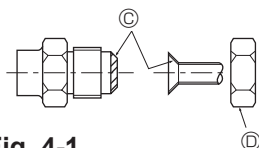

Fig. 4-1
Ⓐ (Fig. 4-1)
Ⓑ (Fig. 4-1)
4.2. Connecting pipes (Fig. 4-1)
- Apply thin layer of refrigerant oil to pipe and joint seating surface before tightening flare nut. ④
- Use 2 wrenches to tighten piping connections. ⑤
- Apply refrigerating machine oil over the entire flare seat surface. ⑥
- Use the flare nuts for the following pipe size. ⑦